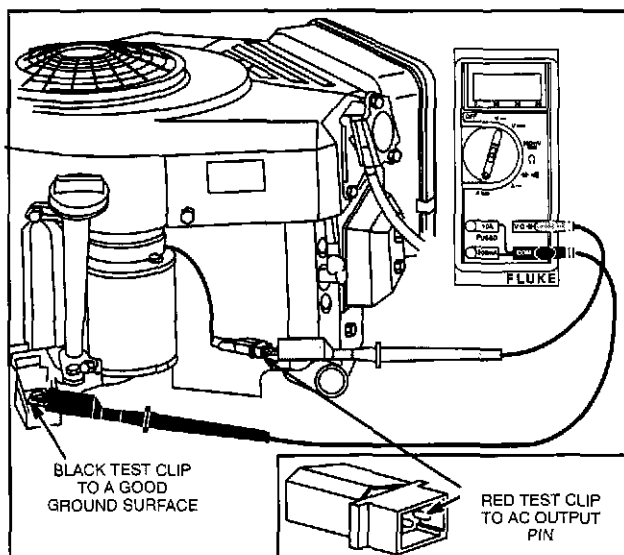

Fig. 16 - Testing AC Output
4. Attach RED test lead clip to AC output terminal, Fig. 16.